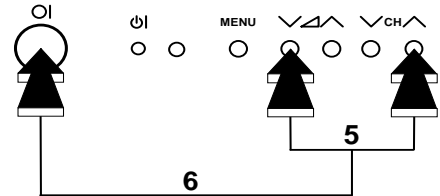

Fig.1
5. Press the volume down and channel up buttons on the front of the receiver at the same time (v / CH ^). See Fig.1.
6. Keeping these buttons pressed, turn the mains on (O|). See Fig.1.